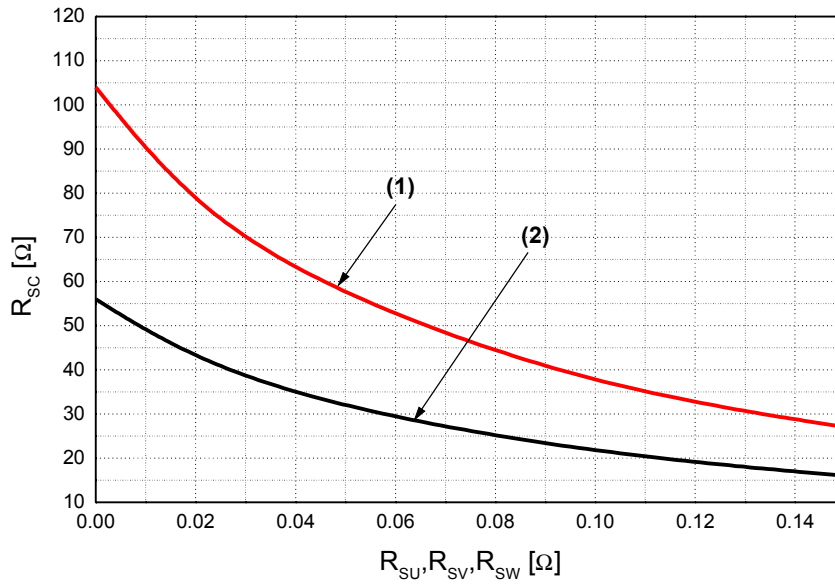

Fig. 7. R_{SC} Variation by change of Shunt Resistors (R_{SU} , R_{SV} , R_{SW}) for Short-Circuit Protection
- Short-circuit current protection is functioning only at the low-sides. It would be recommended that the value of the external sensing resistor (R_{SC}) should be selected around 56 Ω in order to make the SC trip-level of about 15A at the shunt resistors (R_{SU}, R_{SV}, R_{SW}) of 0Ω. For the detailed information about the relationship between the external sensing resistor (R_{SC}) and the shunt resistors (R_{SU}, R_{SV}, R_{SW}), please see Fig. 7.